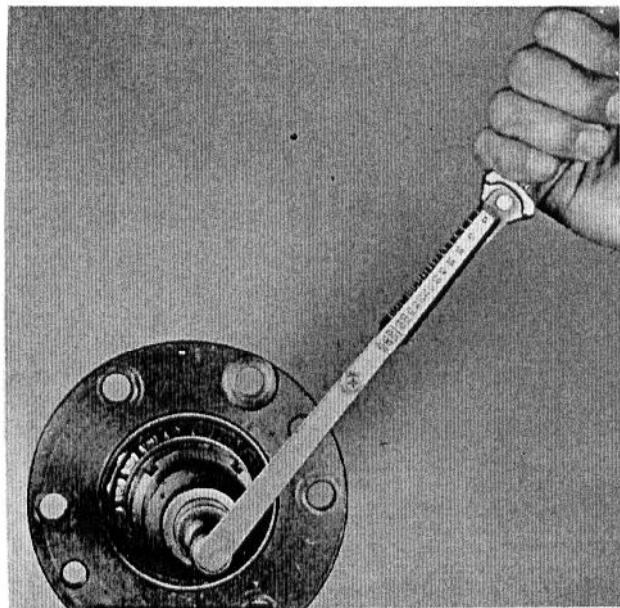

Fig. 62 - Checking Pinion Bearing Pre-Load
6. Check the bearing pre-load using a torque wrench as shown in Fig. 62. Tighten or loosen the bearing retaining nut to obtain 18 - 22 in.-lbs. of torque.